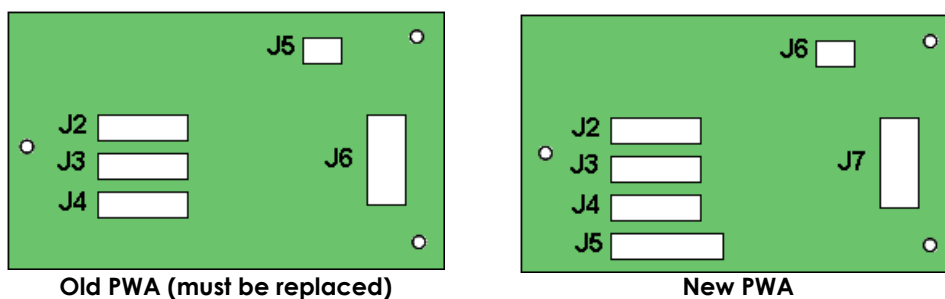

Figure 3-6: Old and New Mail Slot PWA
- On the Master unit, **examine** the Mail Slot PWA (see Figure 3-6) on the Magazine Latch assembly to determine if it needs to be replaced.